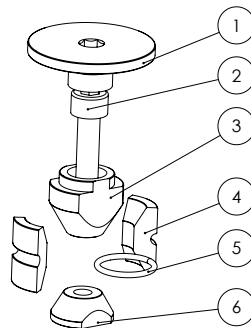

Fig. 12
3 / Loosen locking screw 2 (Fig. 12), so that the expander can be slid into the fork pivot without having to force it. Before inserting the expander into the steerer tube, ensure the cap screw is screwed in 3 full turns. The thread will fit into the cone (3), with room remaining to compress the headset.
4 / Lightly screw the expander into the steerer tube by tightening the locking screw (2) (Fig.12).
5 / Disassemble the top cap 1 (Fig.12) of the expander.
6 / Using a torque wrench with a 5mm Allen head, tighten the compression bolt 2 (Fig.12) to **8 Nm**.
7 / Grease the thread and underside of the cap (1) before replacing it (Fig.12).
8 / Adjust the play in the headset by tightening the cap 1 (Fig.12) using a torque wrench with a 6mm Allen head. **Ensure it is tightened to a torque between 10Nm (min) and 12Nm (max).**
1 / Unscrew locking screw 2 (Fig. 12) so that the expander can be removed from the fork.